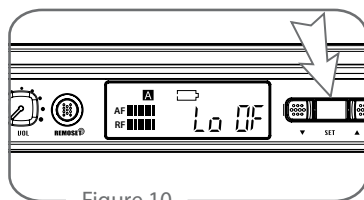

Figure 10
- (1) Press “Set” button ④ for 3 seconds to enter setting window
- (2) Press “Set” again until the Lock setting window shows. (Figure 10)
- (3) Press “▲Up ②” or “▼Down ③” button to select the mode between “Lock On” and “Lock off”.
- (4) After setting, press “Set” again to save the setting.